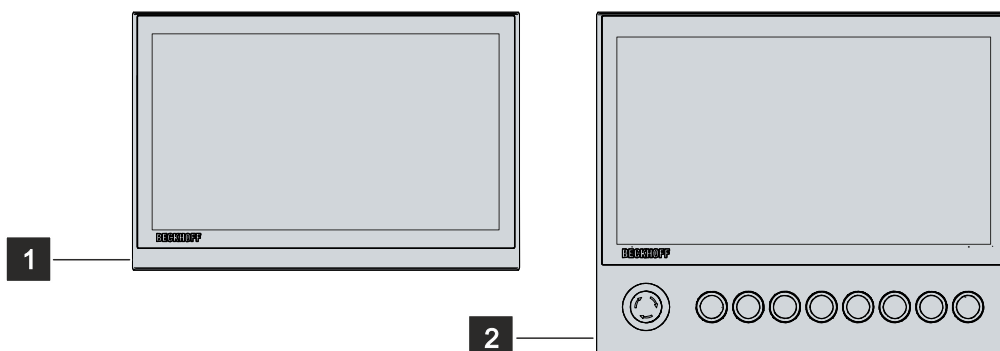

Fig. 1: Without and with push button extension
Explanations of the push button extension and the functions can be found in the installation and operating instructions for the C9900-G0xx. Figure 1 shows an example of a control panel without (1) and with (2) push button extension.